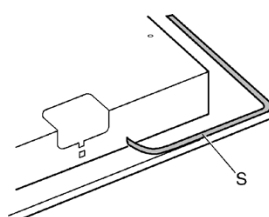

Fig.5
- Turn the appliance upside down and lay the washer S along the external border (fig. 5).